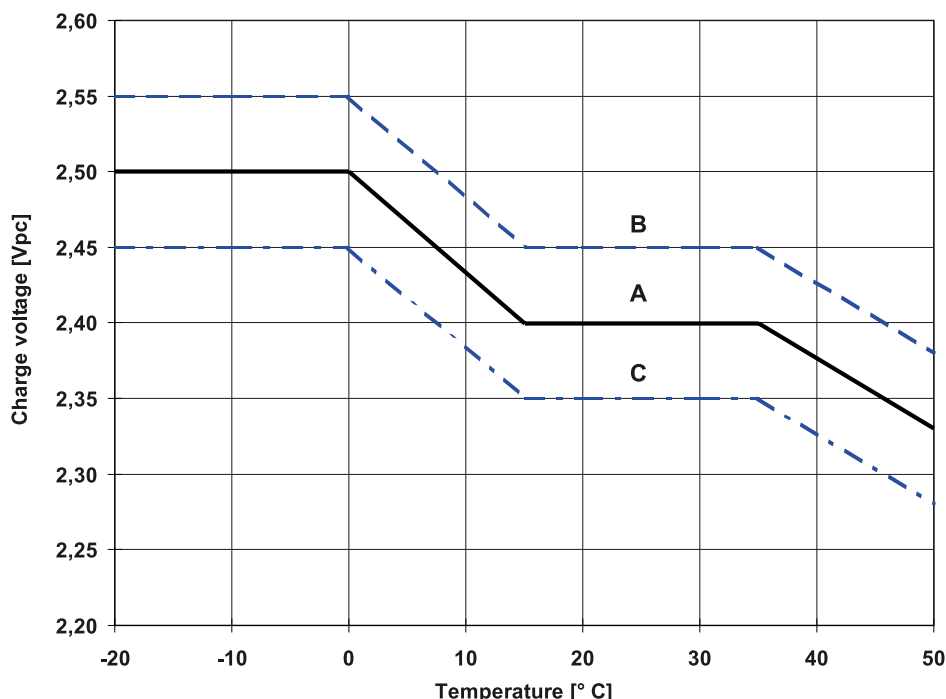

Fig. 1: Charge voltage vs. temperature for solar mode. Charge modes:
Recommended charge voltages for cyclical application: See fig. 1 and item 2.8.
I-phase = up to voltage acc. to fig.1 at 20°C
I-phase = up to voltage acc. to fig. 1 at 20°C
When recharging acc. to fig.1 the actual value of the alternating current is occasionally permitted to reach 10 A (RMS)/ 100 Ah nominal capacity. In a fully charged state during float charge the actual value of the alternating current must not exceed 5 A (RMS)/ 100 Ah nominal capacity.
A temperature related adjustment of the charge voltage within the operating temperature of 15° C to 35° C is not necessary. If the operating temperature is constantly outside this range, the charge voltage has to be adjusted (see fig.1).